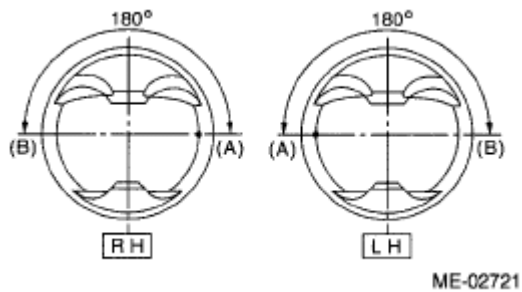

Fig. 170: Positioning Top Ring Gap At (A) Or (B)
13. Position the top ring gap at (A) or (B) in **Fig. 170**.